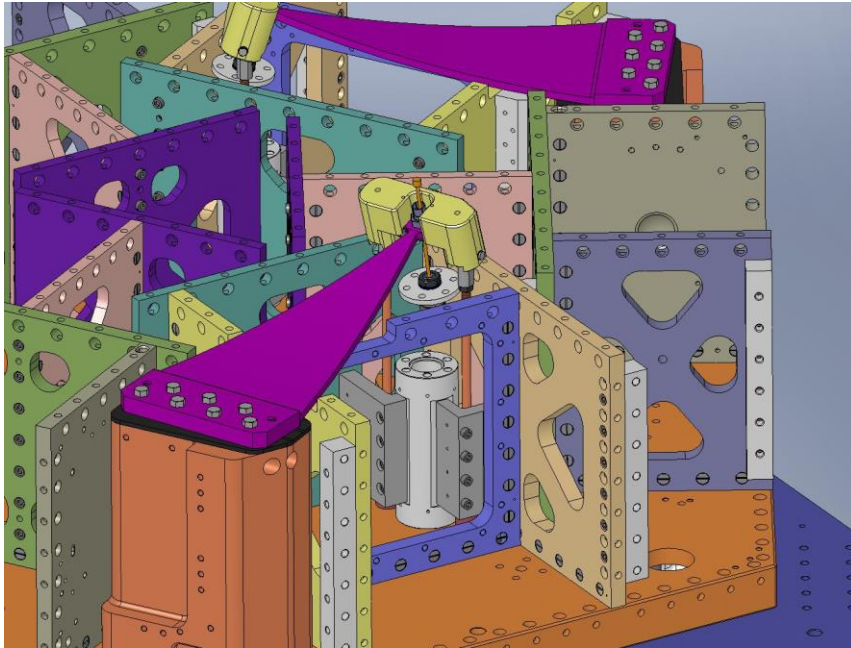

Figure 4.97. Engage the Pull-Down Cap with the end of the Spring. The (2) dowl pins in the Cap should seat in the matching Spring holes.
- Lay the (3) top parts of the **Spring Pull-Down Assemblies** (above, Figure 4.68) on top of the **Springs**, as shown in Figure 4.97. Carefully pass the ends of the **Pull-Down Rods** (D071303) through i) the **Spring Tension Bushings** in the **Stage 1 Floor** and ii) the **Spring Pull-Down Bars** (D071306), as shown in Figure 4.98.